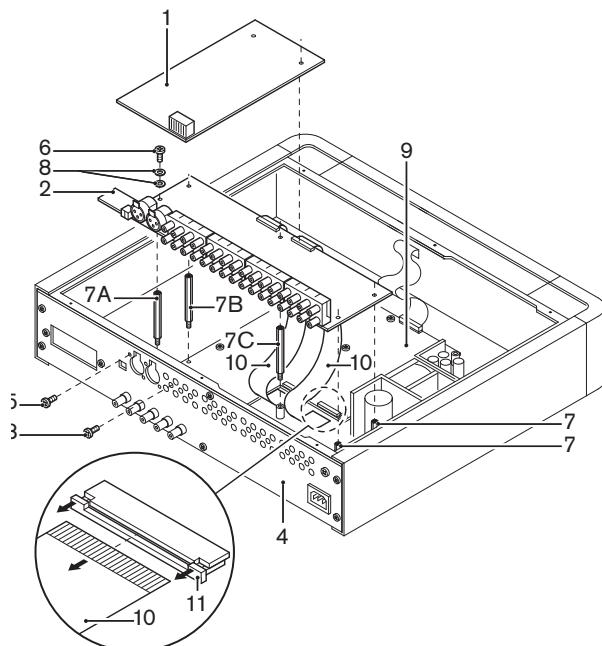
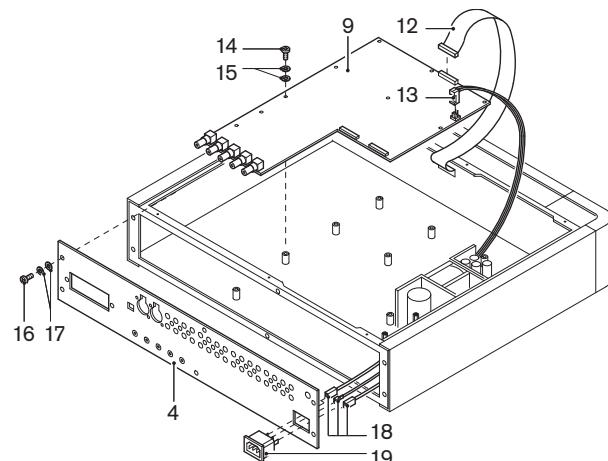

Figure 5.4 Removing the main PCB and the rear panel (steps 1 - 5)
Figure 5.5 Removing the main PCB and the rear panel (steps 6 - 8)
Follow the instructions below to remove the main PCB and the rear panel. The numbers refer to *Figure 5.4* and *Figure 5.5*.
2. If the transmitter contains an interface module (1): Remove the interface module proceeding in reverse order of mounting. The mounting instructions can be found in section 5.2 . Note that the distance studs of the transmitter module can remain in place.
4. Remove the analogue input/output PCB (2):
- Loosen the screws (3) between the cinch plugs on the rear panel (4). The number of screws depends on the transmitter type.
- Loosen the screws (5) at the XLR connectors on the rear panel.
- Loosen the screws (6) of the distance studs (7) of the analogue input/output PCB. Do not lose the (spring) washers (8).
- On the main PCB (9) detach the flexible cables(10) to the analogue input/output PCB. To this end release the catches (11) on both sides and pull out the flexible cable. See inset in *Figure 5.4*.
6. On the main PCB (9):
- Detach the user interface cable (12).
- Detach the power supply connector (13).
- Loosen the screws (14) of the distance studs. Do not lose the (spring) washers (15).